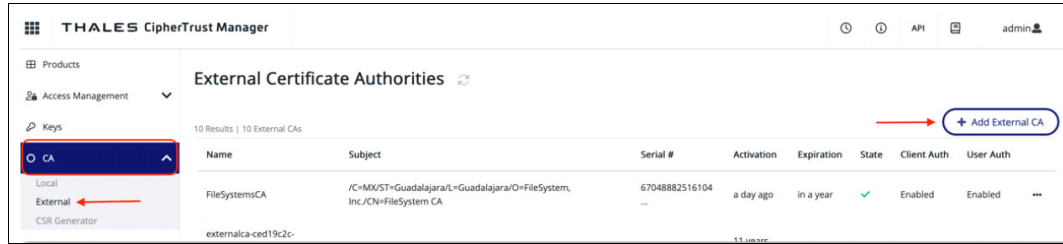

Figure J-21 External certificate authorities
- a. Click **CA** → **External** → **Add external CA** as shown in Figure J-21 on page 1039.